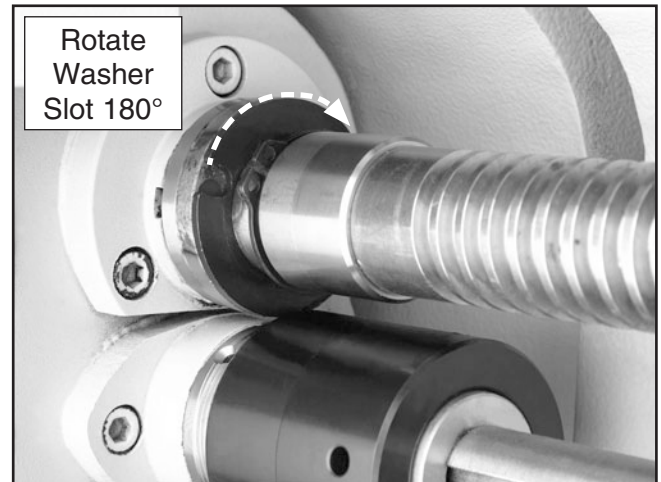

Figure 131. Shroud washer positioning.
10. With the pin completely seated in the bore and the head flush with the leadscrew shoulder, slide the shroud washer against the shoulder and rotate the washer 180° so the washer covers the head of the shear pin (**Figure 131**).